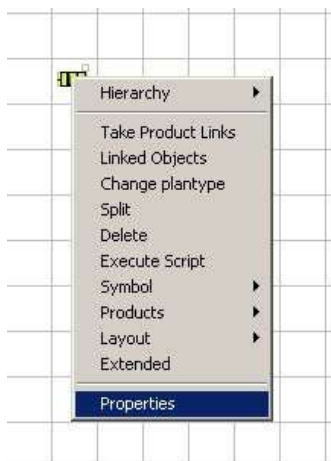

Figure 92: Opening Properties Dialogs using the Contextual Menu
- 3) Press the right mouse button and click **Properties** (Please refer to the Figure 92. If you want to open the extended menu, click **Extended**).